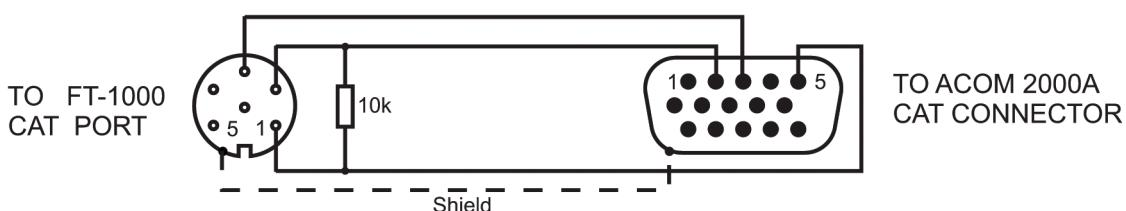

Fig. 7-8 CAT Connection to YAESU FT-1000D
**-YAESU FT-990, FT-1000, and FT-1000D** You will need a 6-pin DIN connector, 3 wire shielded cable and a 10k pull-down resistor as shown on Fig 7-8.